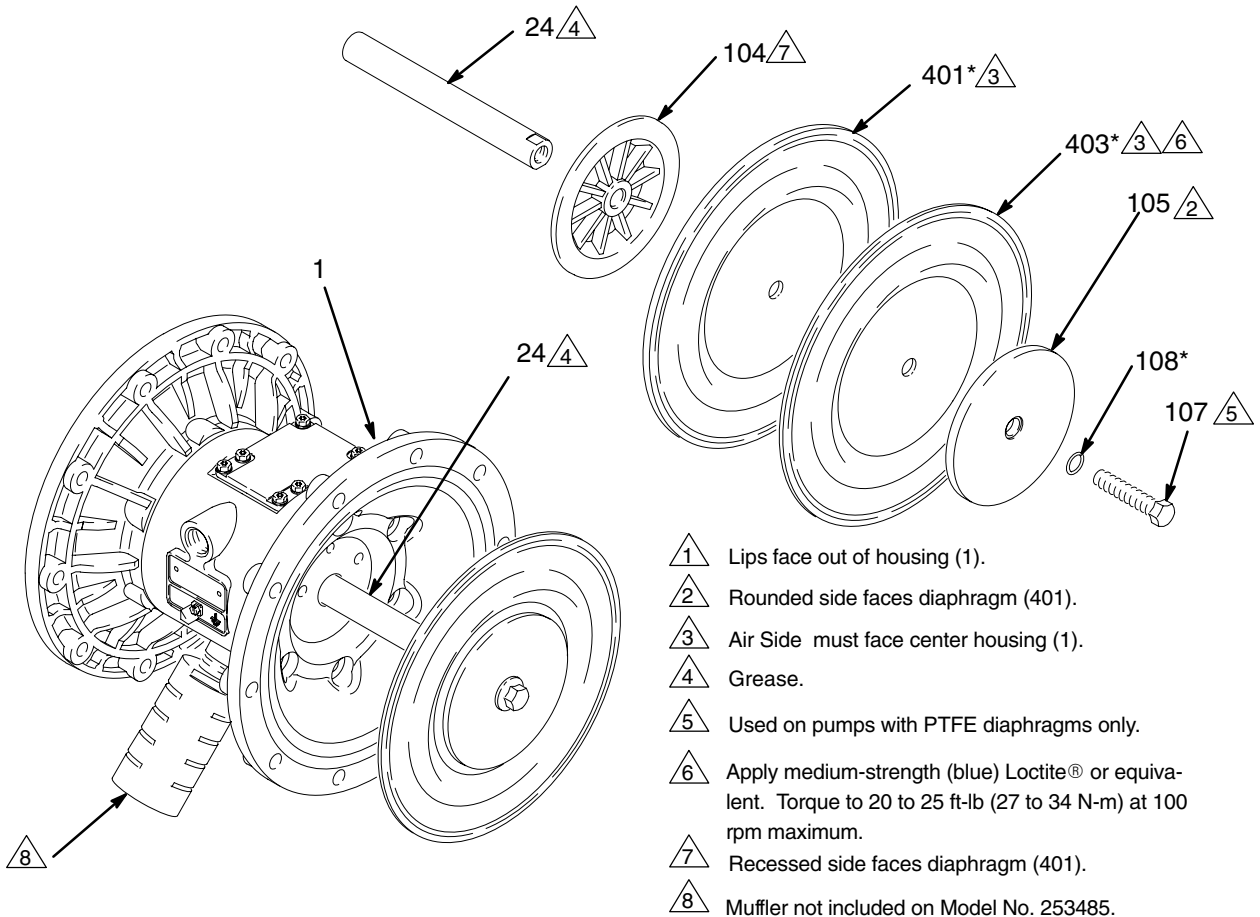
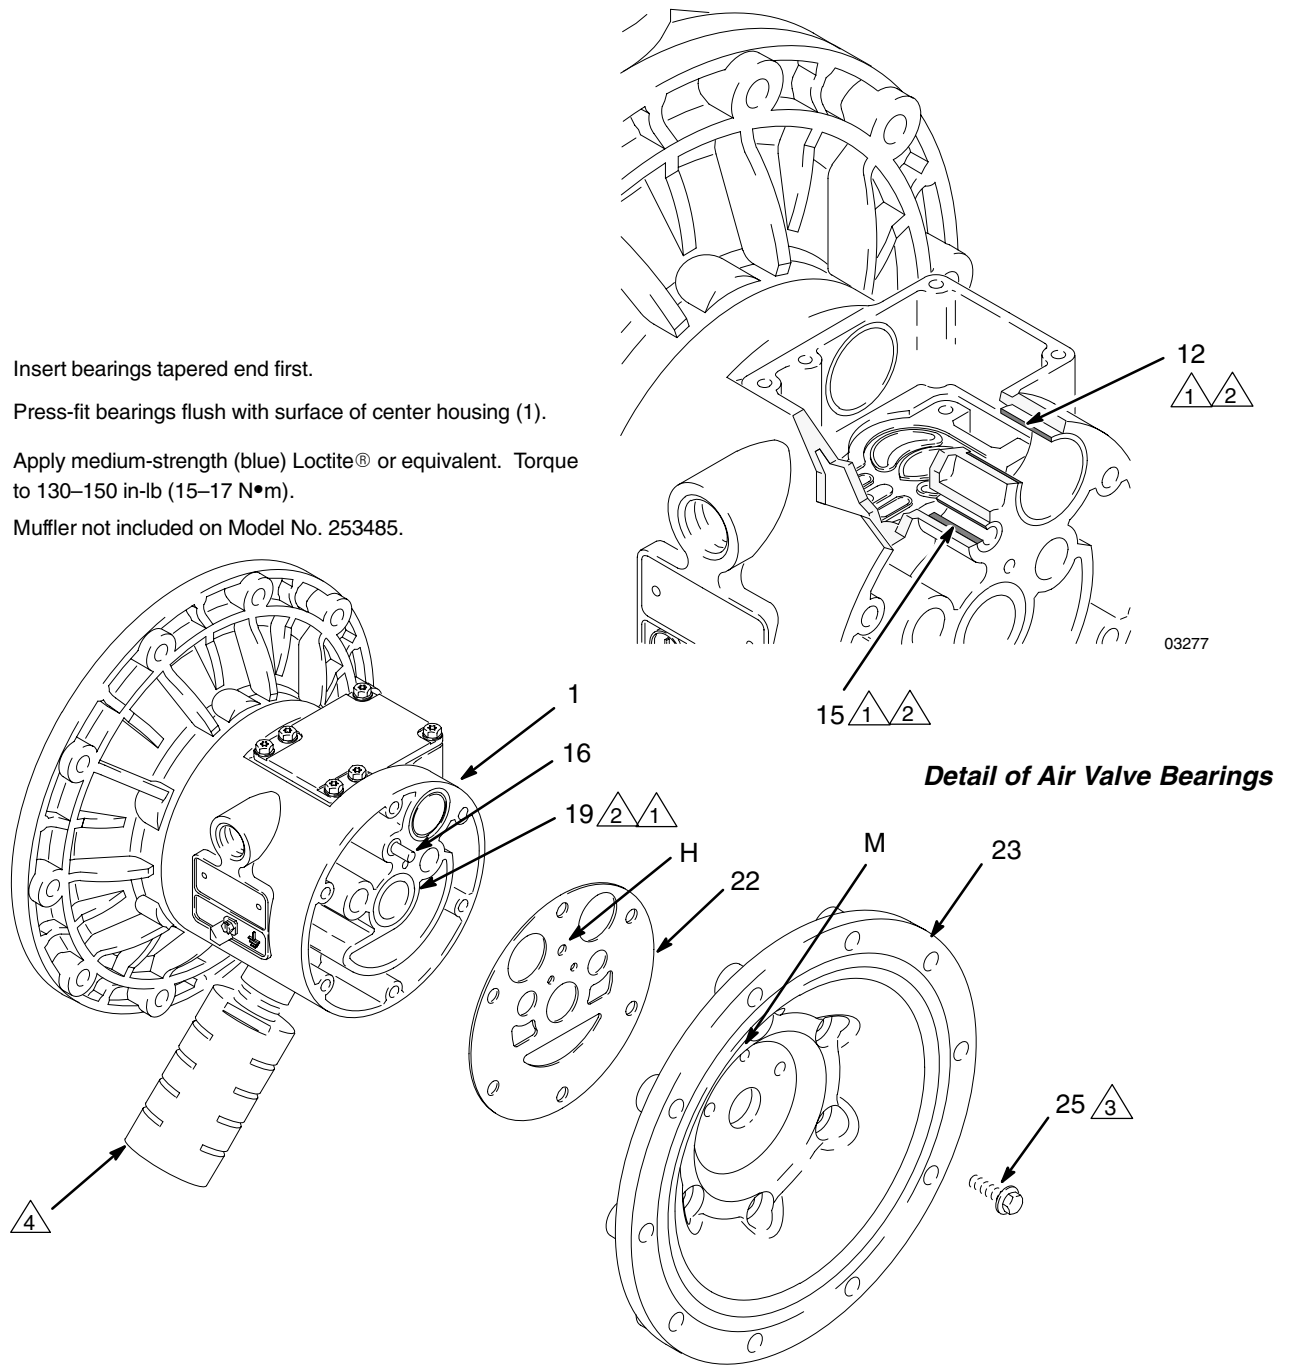

Fig. 12
Fig. 13
4. Loosen but do not remove the diaphragm shaft bolts (107), using a 15 mm socket wrench (1 in. on stainless steel models) on both bolts. *NOTE: This step does not apply to pumps with overmolded diaphragms.*
5. Unscrew one bolt from the diaphragm shaft (24) and remove the o-ring (108), fluid side diaphragm plate (105), PTFE diaphragm (403, *used on PTFE models only*), diaphragm (401), and air side diaphragm plate (104). See Fig. 12.
1. Install the shaft u-cup packings (402*) so the lips face **out** of the housing (1). Lubricate the packings. See Fig. 12.
2. Install the diaphragm assembly on one end of the shaft (24) as follows. *For pumps with overmolded diaphragms, go directly to step g.*
- NOTE:** If you are removing only the diaphragm shaft bearing (19), skip step 4.
5. Using a 10 mm socket wrench, remove the screws (25) holding the air covers (23) to the center housing (1). See Fig. 13.
6. Remove the air cover gaskets (22). Always replace the gaskets with new ones.
7. Use a bearing puller to remove the diaphragm shaft bearings (19), air valve bearings (12) or pilot pin bearings (15). Do not remove undamaged bearings.
8. If you removed the diaphragm shaft bearings (19), reach into the center housing (1) with an o-ring pick and hook the u-cup packings (402), then pull them out of the housing. Inspect the packings. See Fig. 12.
1. If removed, install the shaft u-cup packings (402*) so the lips face **out** of the housing (1).
2. The bearings (12, 15, and 19) are tapered and can only be installed one way. Insert the bearings into the center housing (1), **tapered end first**. Using a press or a block and rubber mallet, press-fit the bearing so it is flush with the surface of the center housing.
4. Align the new air cover gasket (22) so the pilot pin (16) protruding from the center housing (1) fits through the proper hole (H) in the gasket.
5. Align the air cover (23) so the pilot pin (16) fits in the middle hole (M) of the three small holes near the center of the cover. Apply medium-strength (blue) Loctite® or equivalent to the threads of screws (25), and install the screws handtight. See Fig. 13. Using a 10 mm socket wrench, torque the screws oppositely and evenly to 130–150 in-lb (15–17 N•m).